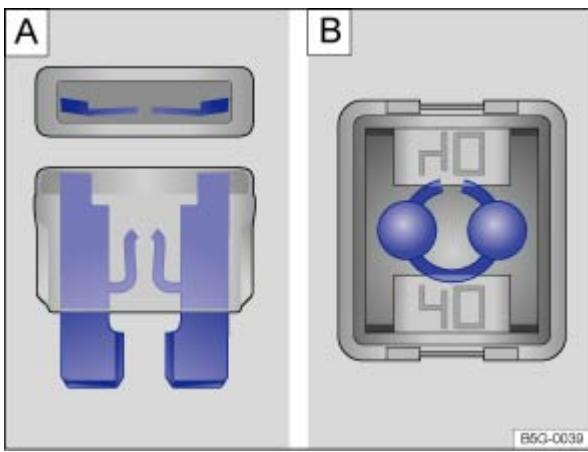

Fig. 171 Blown fuse: : Blade fuse. : JCASE® fuse.
- *For blade fuses (ATO[®], MINI[®]):* Remove the fuse and shine a flashlight on it. This makes it easier to tell if the fuse has blown. A blown blade fuse has metal strips that have burned through, which you can see through the transparent housing from above and from the side ⇒ Fig. 171 A.
- *For cartridge fuses (JCASE[®]):* Shine a flashlight on the fuse. This makes it easier to tell if the fuse has blown. A blown cartridge fuse has metal strips that have burned through, which you can see through the transparent housing from above ⇒ Fig. 171 B.